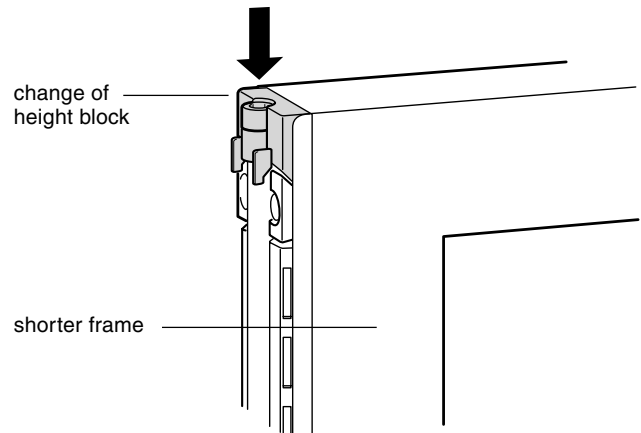

Figure 1
1. Place change of height block of connector on the top wedge block of the shorter frame. (Figure 1)